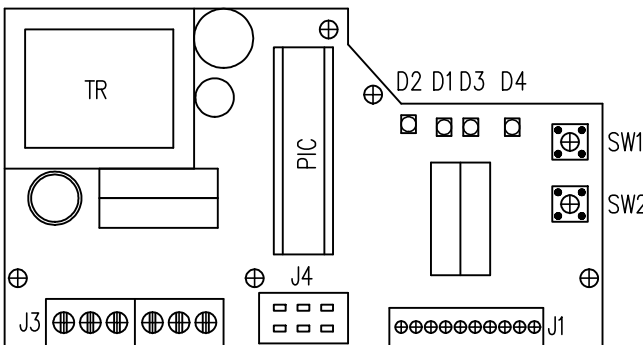

Fig.13
4.6 Adjustment of position controller (Fig. 13)
Laying of adjusters and signaling elements on the board of the REGADA controller is shown on **Fig. 13**: